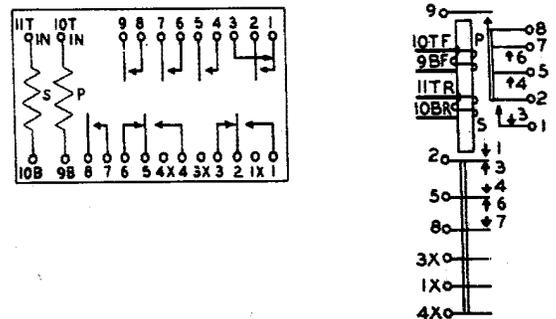

Fig. 7 — Winding and Spring Terminal Arrangement as Viewed From the Rear (terminal side) — U-, Y-, UA-, UB-, and 310-Type Relays Having Shielding Springs
2.24 Where an electrostatic shielding spring is used, it does not in most cases extend beyond the mounting plate as viewed from the front of the relay. Only a wiring terminal appears from the terminal side. This wiring terminal is given the number of the terminal immediately to its right as viewed from the rear followed by the letter X as shown in Fig. 7, except when the spring is the first spring in the pile-up. In this case, the spring is numbered X1.